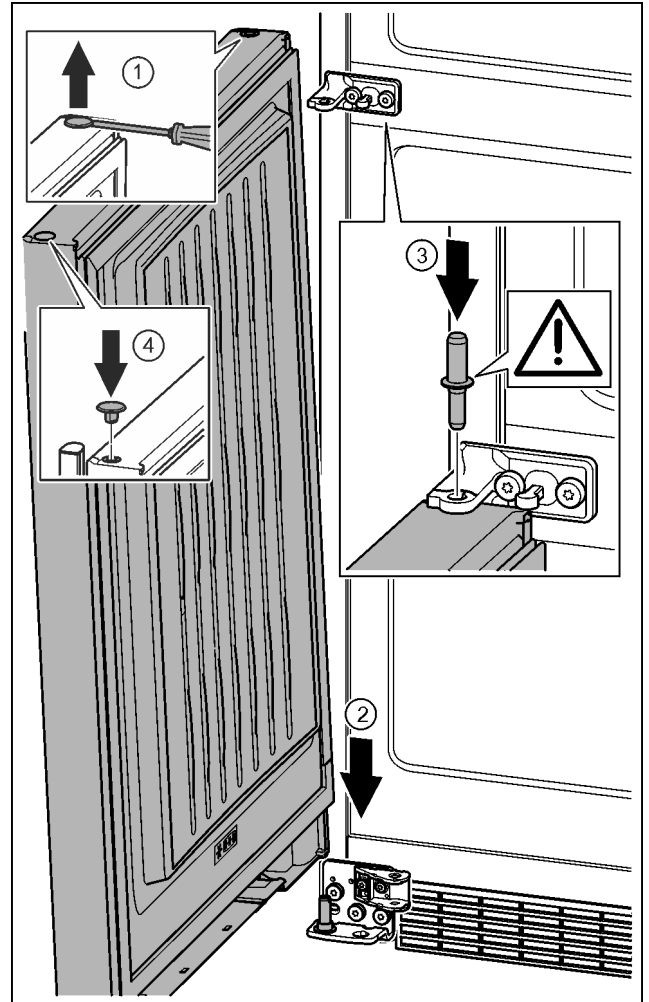

Fig. 39
- ▶ Carefully lift up the plugs with a slotted screwdriver and remove them. Fig. 39 (1)
- ▶ Position the door from above onto the lower bearing pins. Fig. 39 (2)
- ▶ Insert the centre bearing pin through the centre bearing bracket into the lower door. Make sure that the catch mechanism is pointing to the rear. Fig. 39 (3)
- ▶ Insert the plugs again on the other side of the door. Fig. 39 (4)